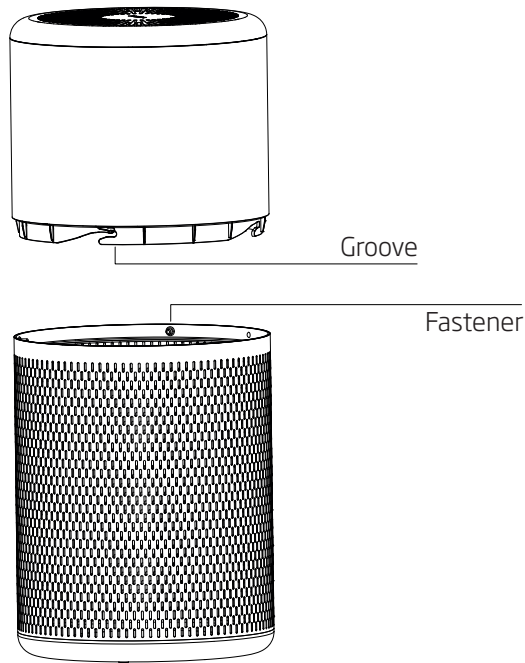

Fig.1
**NOTE:** Before reading these instructions, please view the corresponding illustrations. (fig.1/Page7)